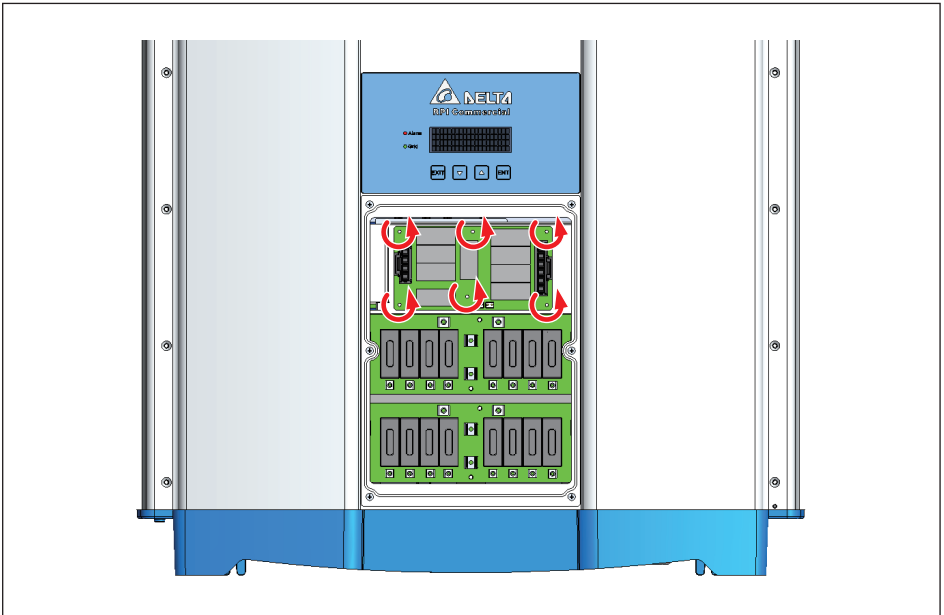

Figure 6-3 : Loosen the 6 screws
4. Loosen the 6 screws. (**Figure 6-3**)